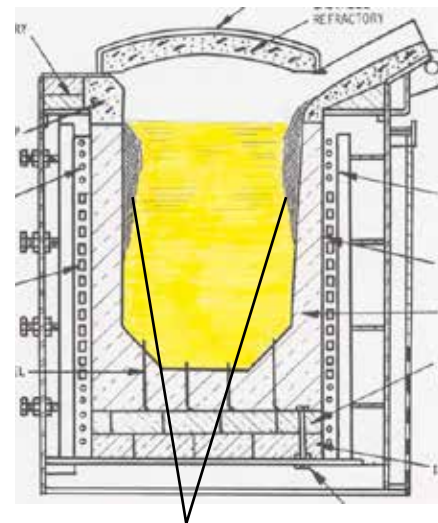

Figure 1: Typical Slag Build Up in a Coreless Induction Furnace
**Coreless Induction Furnaces:** The coreless induction furnace is a refractory lined vessel with electrical current carrying coils that surround the refractory crucible. A metallic charge consisting of scrap, pig iron and ferroalloys typically are melted in this vessel. When electrical current from the coils is passed through the charge, a magnetic field is formed. The field creates thermal energy, which melts the charge. The magnetic currents in the molten metal cause an intense stirring action, thus ensuring a homogenous liquid. During the melting process, slag, non-metallics and insolubles are generated from oxidation products, dirt, sand, and other impurities from the scrap, erosion and wear of the refractory lining, oxidized ferroalloys, and other sources. Sometimes, the term “dross” is also used to describe these insoluble by-products of the melting process. These nonmetallics remain in the liquid metal as an emulsified slag until they increase in size and buoyancy. Once the nonmetallics coalesce into a floating mass on the liquid metal they can be removed. The slags normally are deposited along the upper portion of the lining or crucible walls (above the heating coils) in a coreless induction furnace. Figure 1 shows typical slag buildup in a coreless induction-melting furnace.